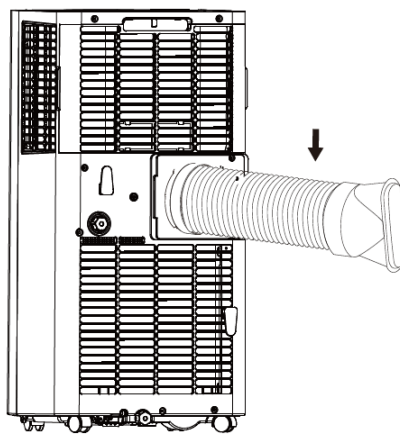

Fig. 1
- Screw the exhaust air hose (with adapter) to the exhaust air outlet at the rear of the appliance (anti-clockwise, fig. 1).